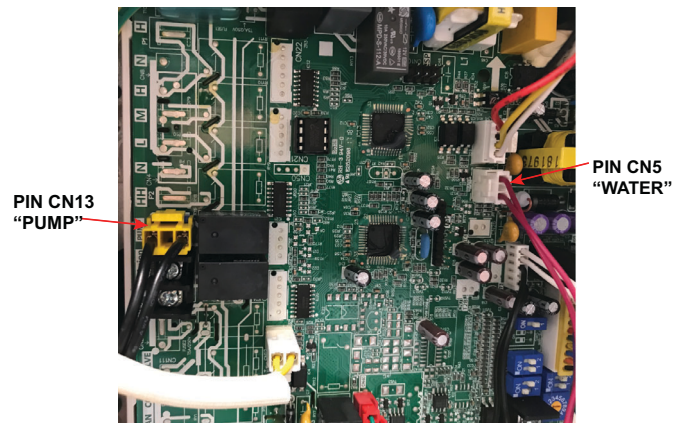

Fig. 34 — Condensate Lift Pump Connectors
- Plug the power cable of the external pump to CN13 / "PUMP" pin and plug the water level sensor cable to the CN5 / "WATER" to enable the pump (see Fig. 34).
- Plug the power cable of the external pump to CN13 / "PUMP" pin and plug the water level sensor cable to CN5 / "WATER" to enable the pump (see Fig. 34).